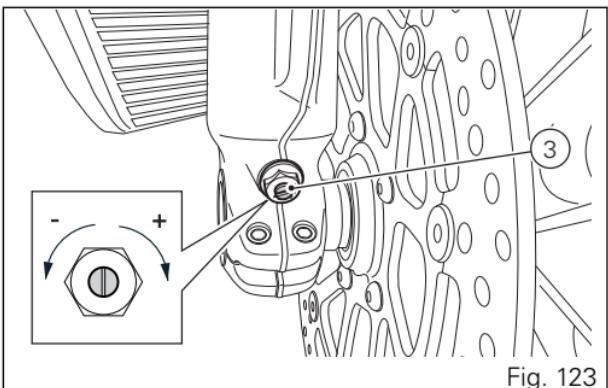

Fig. 123
- 3) for compression damping (Fig. 123).